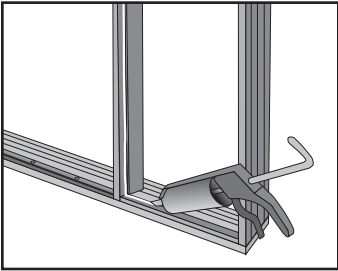

Fig. 16
- C. To weatherproof sidelights, apply a bead of caulk along the inside rabbeted corner the entire length of the sidelight jamb leg, sidelight mull post, sidelight head jamb, and sidelight sill (**Fig. 16**).